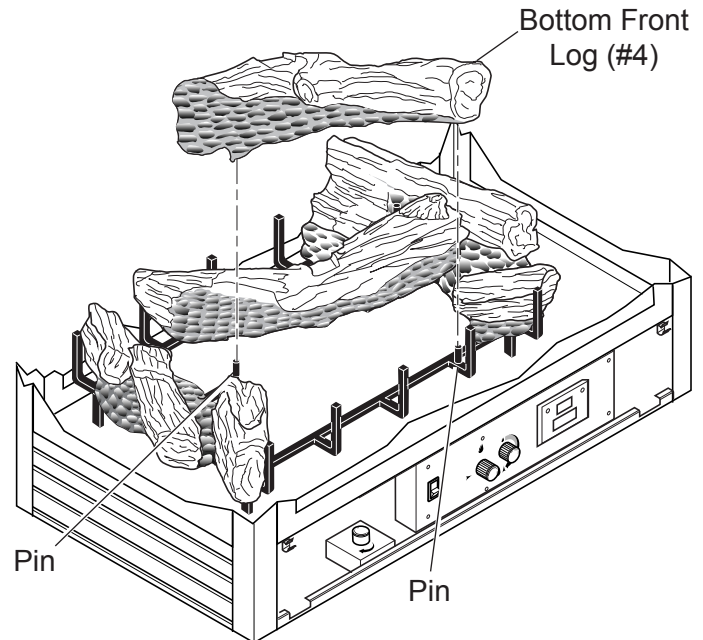

Figure 46 - Installing Bottom Front Log (#4)
6. Line up pin holes on bottom front log (#4) with pins on grate. See Figure 46.